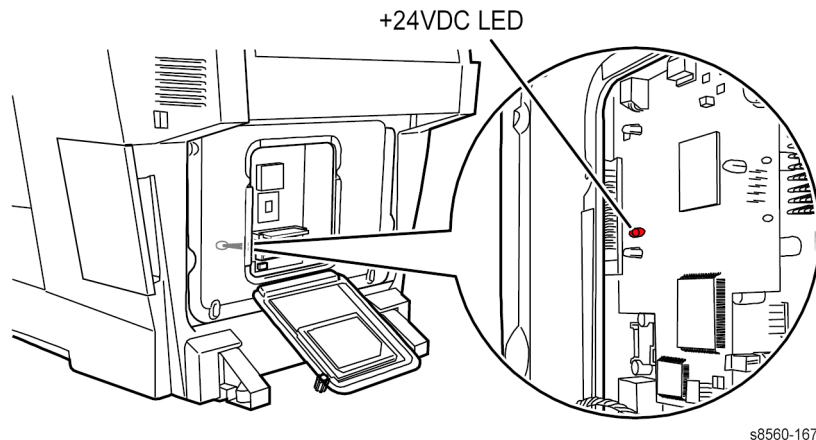

Figure 1 Scanner Power Supply 24 Volt Status LED
3. Verify the Scanner Power Supply operation. See Figure 1.
2. Check the Scanner Power Supply. See Figure 1.